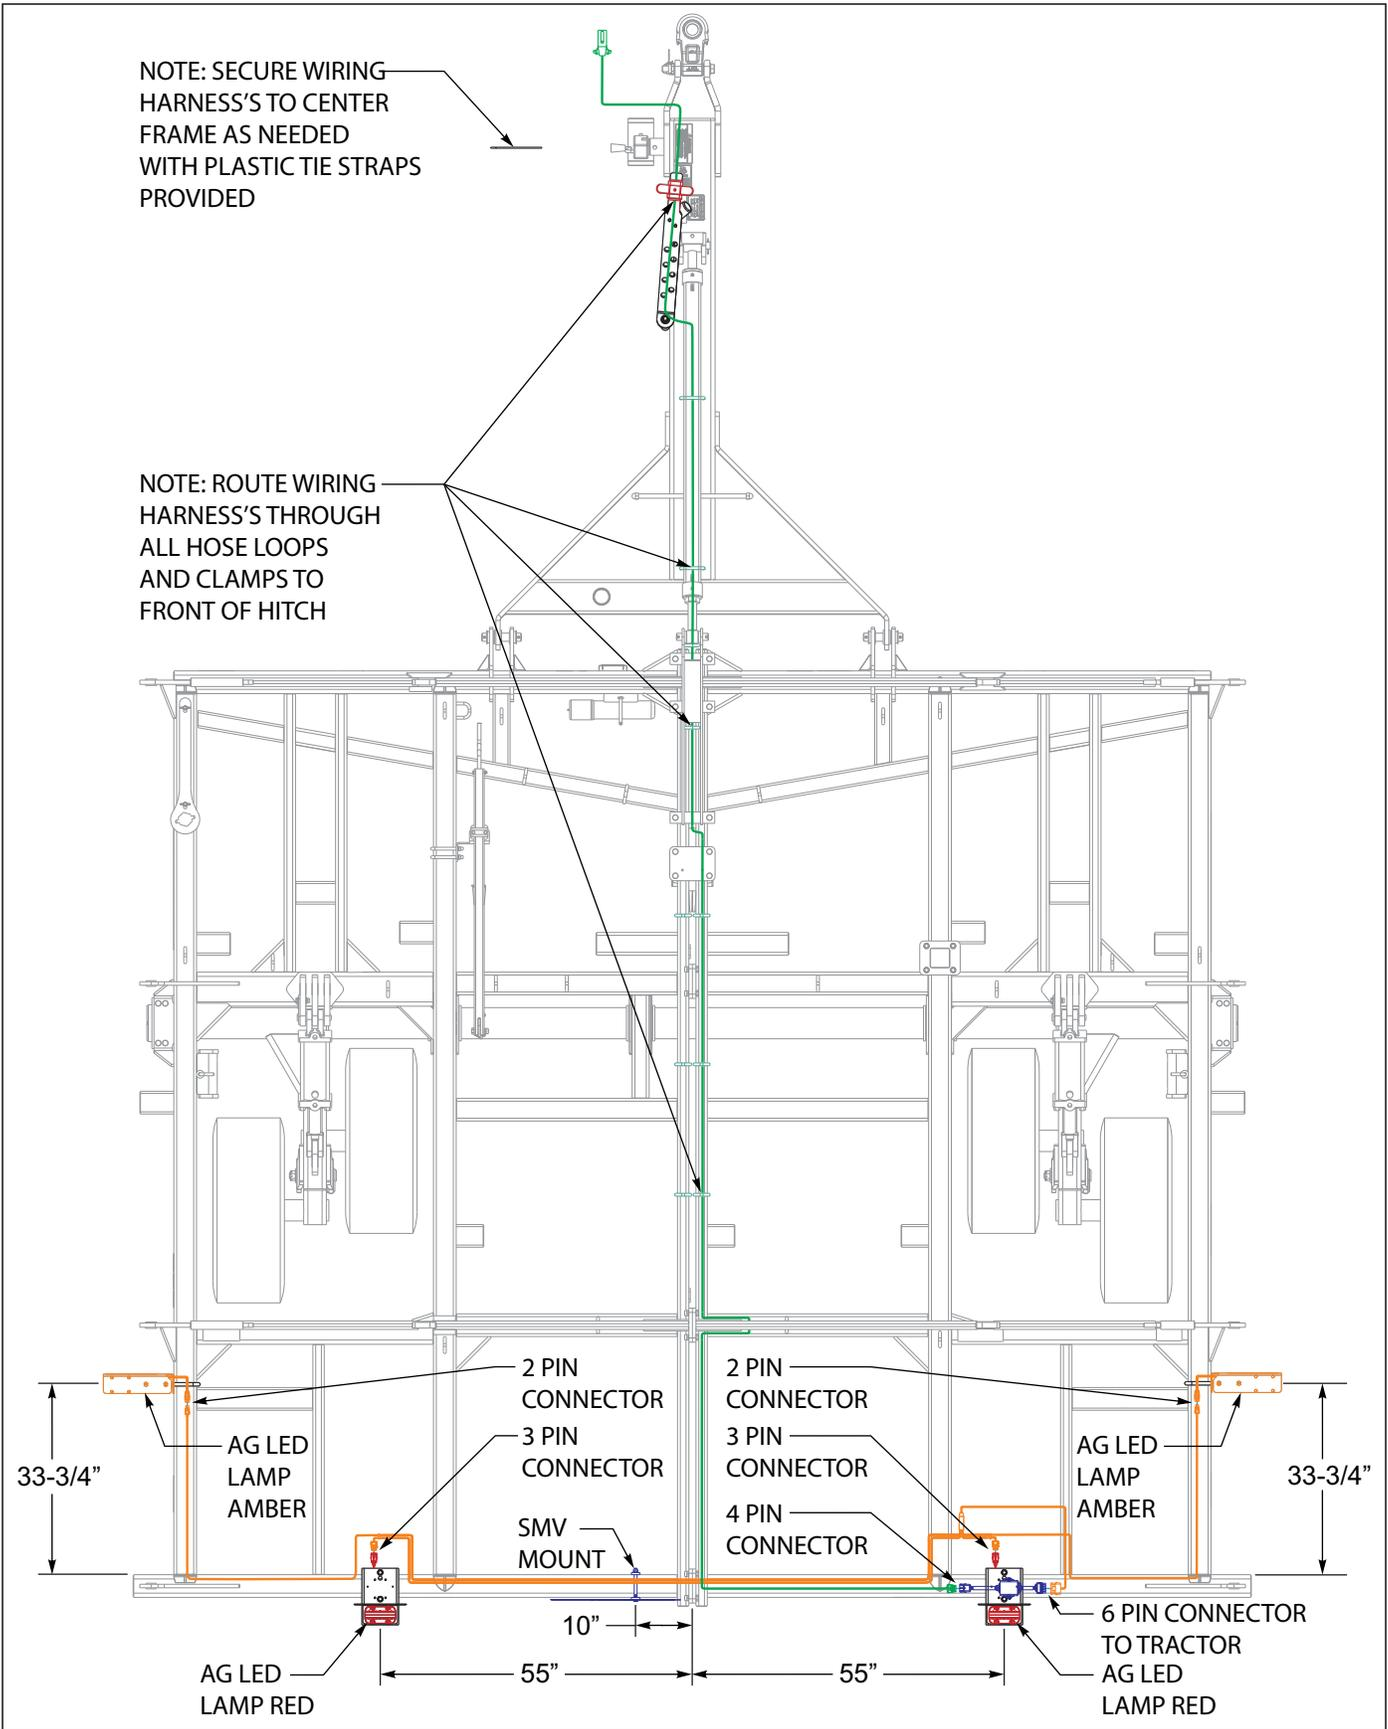

Figure 3-32: Light Brackets & SMV Placement
5. **See Figures 3-32** for light bracket placements.
11. **See Figures 3-32** for smv placement, wiring harness routing and connector locations.